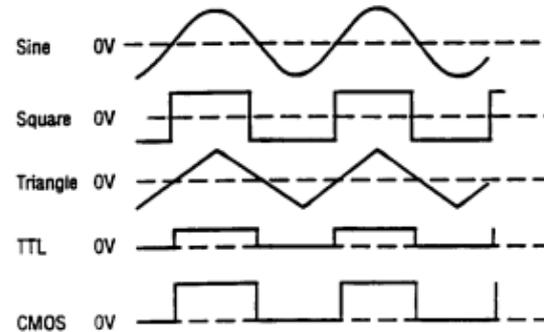

Figure 2. Output Waveform and Phase Relationship
- Initially, verify that the **DUTY CYCLE** (17), **CMOS LEVEL** (15), **DC OFFSET** (14), **-20 dB** (11), and **SWEEP INT/EXT** (12) switches are in the OUT position (released). This will produce a symmetrical waveform unaffected by the sweep generator and other controls.
- Plug the unit into an appropriate power source and turn it on by engaging the **POWER** switch (1).
- Select the desired waveform (SINE, SQUARE, or TRIANGLE) by engaging one of the **FUNCTION** switches (3). Phase relationships of the waveforms are shown in Fig. 2.
- Select the frequency of the waveform by depressing one of the **RANGE** switches (2). The output frequency is displayed, along with the appropriate measurement units, **KHz** or **Hz** (23), on the LED display.
- Rotate the **COARSE** (20) frequency control to quickly set the output frequency to the approximate desired value. The **FINE** (19) frequency control can then be used to easily set the output to the specific desired value. The frequency selected is available at the **OUTPUT** jack (6). In addition, a digital signal, either TTL or CMOS is available at the **TTL/CMOS** jack (7) (refer to the "TTL/CMOS OUTPUT" section of this manual).